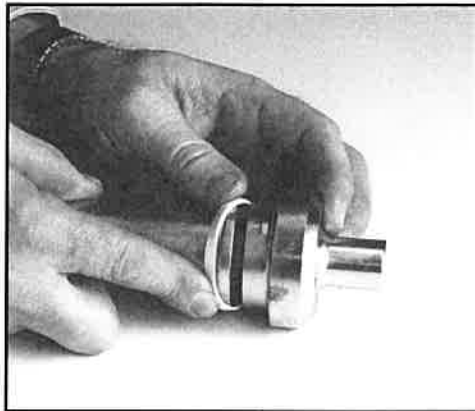

FIG. 25: SLIDE CHISEL SEAL ONTO CHISEL
5. Slide the chisel seal onto the chisel and cover the o-ring (see Fig. 25).